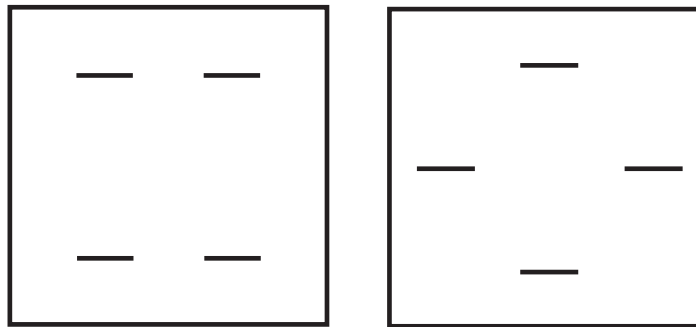

Figure 4: Ordered Grid sampling on the left and Rotated Grid sampling on the right
This is quite apparent when comparing ordered grid (OG) sampling to rotated grid (RG) sampling. The difference in the sampling pattern for OG and RG sampling is shown below in Figure 4.